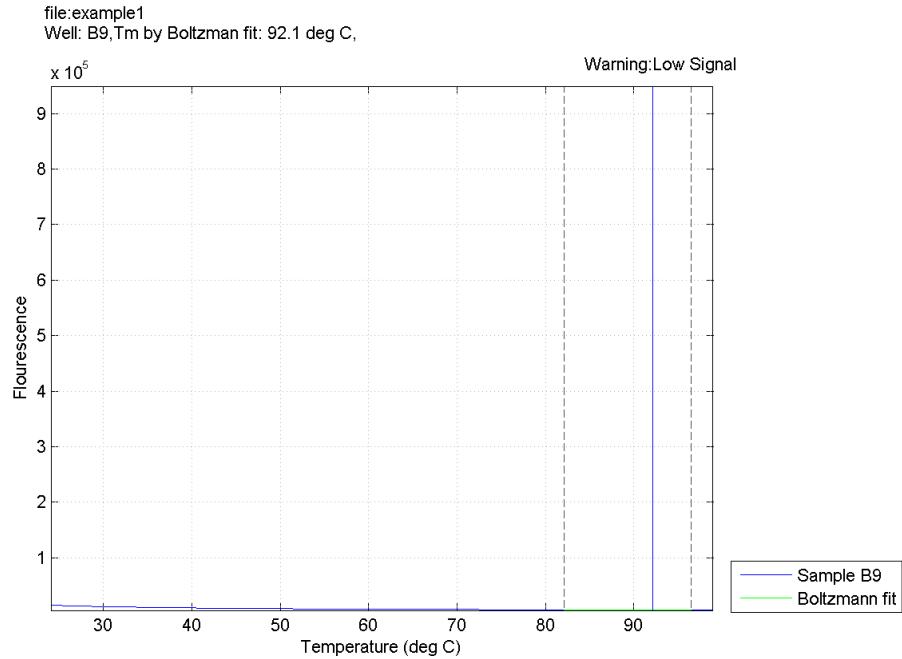

Figure 13: Well with warning flag "Low Signal"
- For example, for well B9, there is a low signal flag raised. Well B9 data is presented in Figure 13: Well with warning flag "Low Signal". The signal was very low, compared to the highest magnitude of the signal seen in that group of wells analyzed together. This result should be rejected.